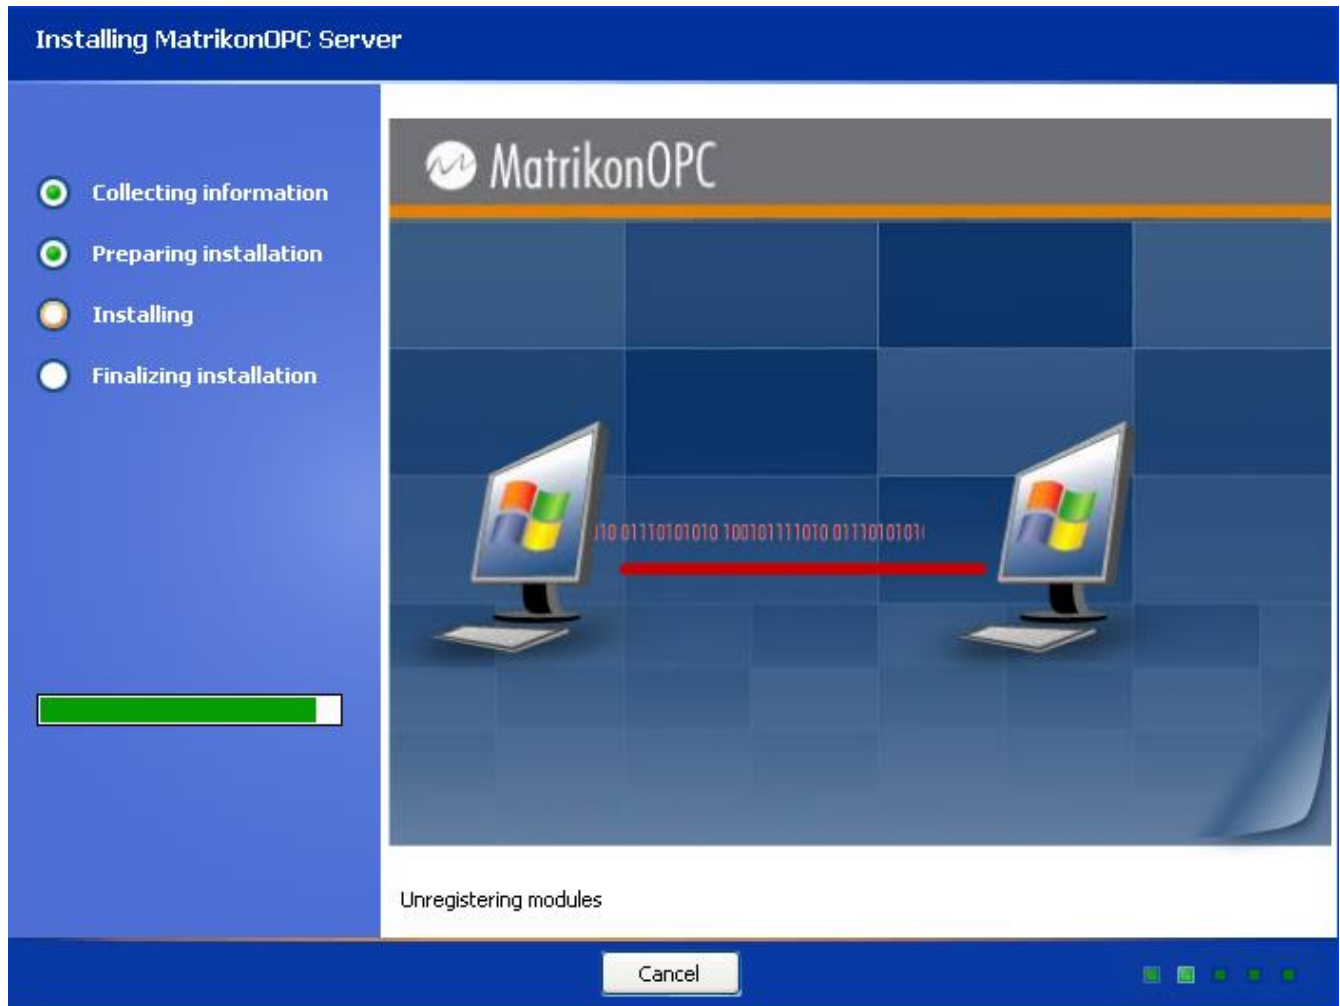

Figure 97 - Installing MatrikonOPC Server Screen
19. Click on the **Next** button. The **Installing MatrikonOPC Server for Modbus** screen (Figure 97) appears, installation begins, and the product files are copied to the computer.